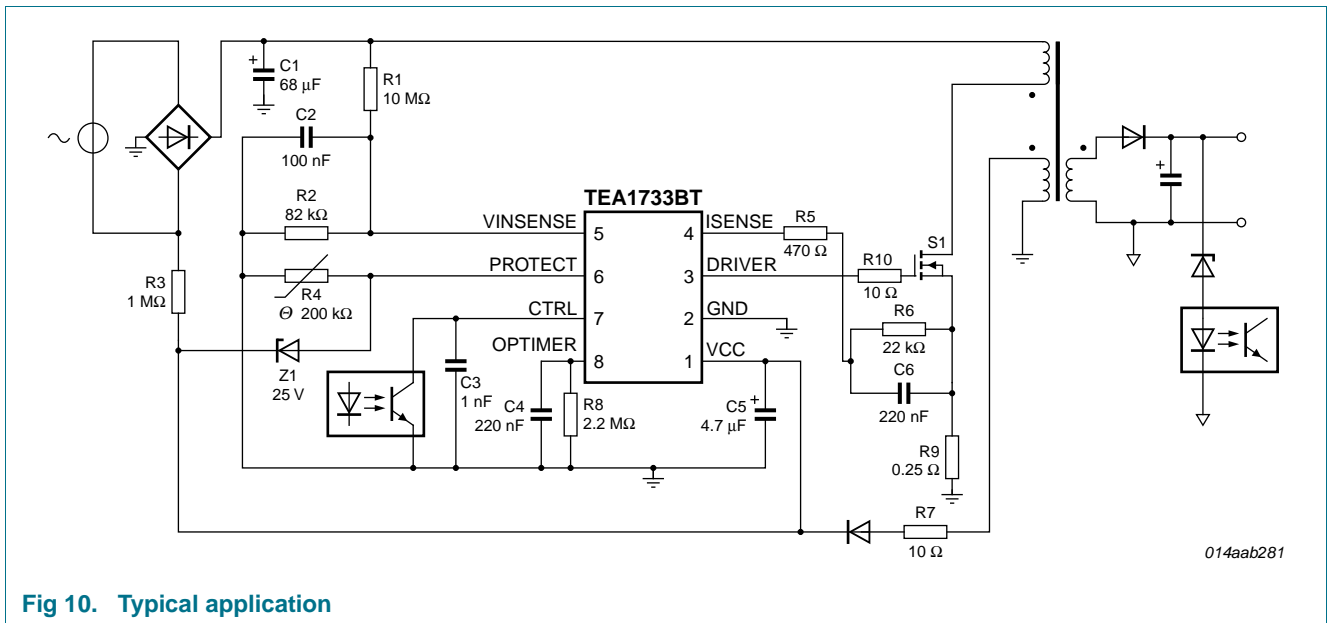

Fig 10. Typical application
A power supply with the TEA1733BT is a flyback converter operating in Continuous conduction mode (see Figure 10).
In the example shown in Figure 10, the PROTECT pin is used for OVP and OTP. The OVP level is set by diode Z1 to $V_{CC} = 25.8 \text{ V}$. The OTP level is set by Negative Temperature Coefficient (NTC) resistor R4. The VINSENSE pin is used for mains voltage detection and resistors R1 and R2 set the start voltage to about 80 V (AC). The overpower protection time is defined by capacitor C4 at 60 ms.